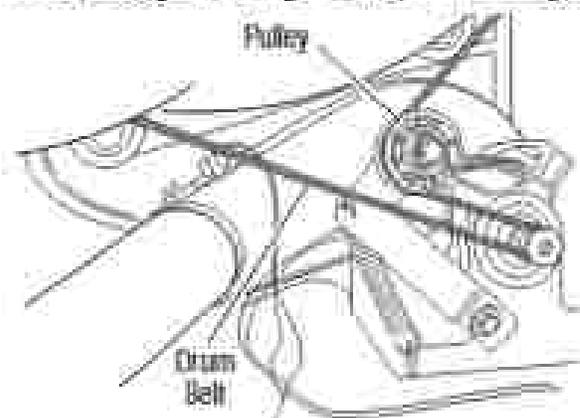

Figure 1 - Slowly remove drum belt.
7. Check the drive motor and belt switch (gas dryer only). Slowly remove the drum belt from the spring-loaded belt switch pulley, gently leaving the pulley down. See **Figure 1**.